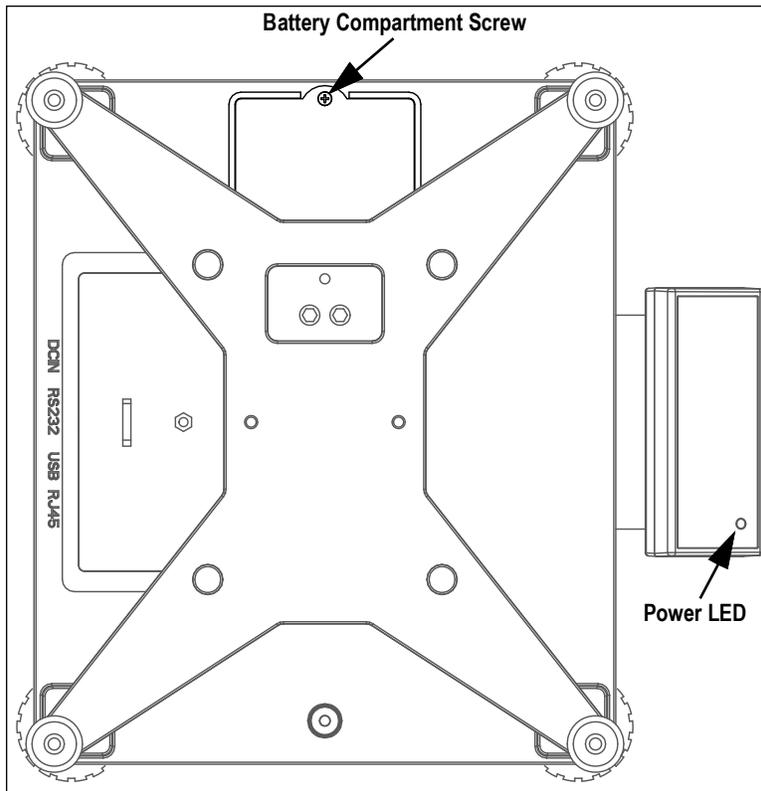

Figure 2-2. BP-R 12 x 14 Scale – Top View with Weigh Platter Removed
3. Remove battery compartment screw and carefully lift the compartment cover (See Figure 2-2 on page 10). Keep screw for reassembly.